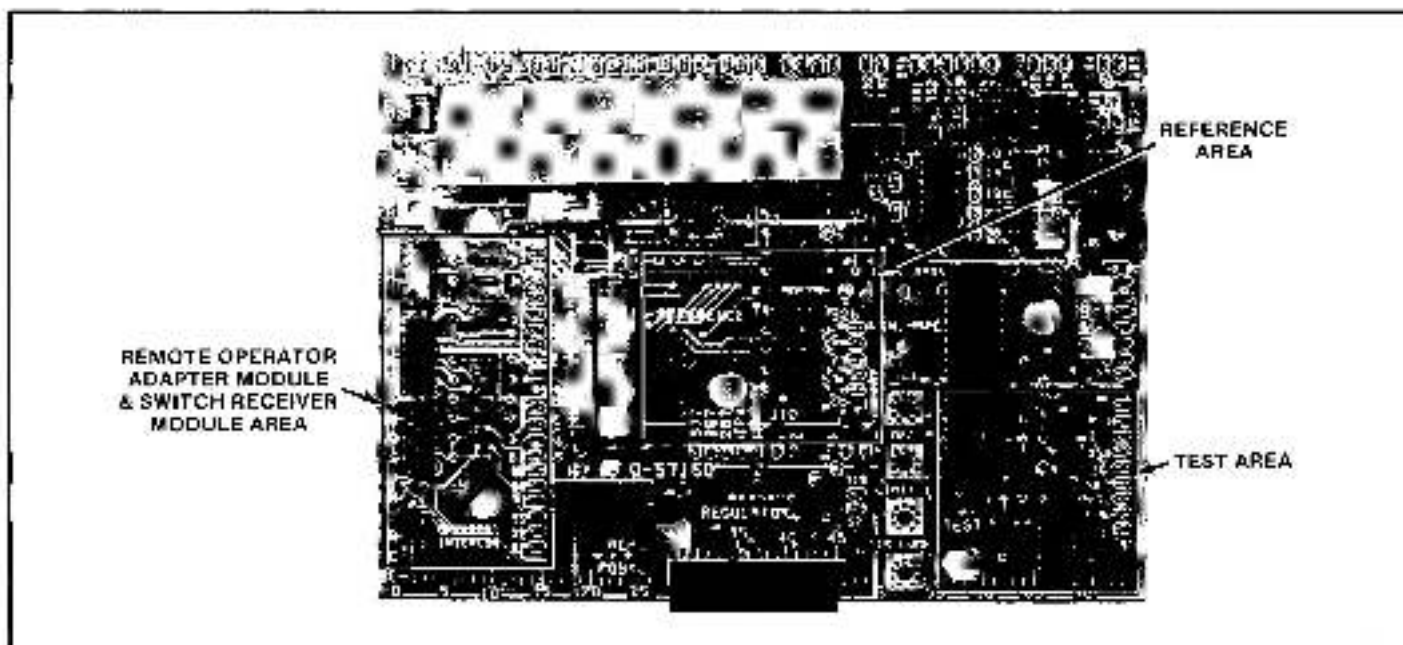

Figure 2 — Regulator Module Kit Locations
2. Refer to Figure 2 and note the heavy border area at the extreme left-hand side of the Regulator Module. This is the area where the Switch Receiver Module is to be mounted. First, remove the Remote Operator Adapter Module. Then, place the Switch Receiver Module in the proper orientation so the two connectors are aligned over the two sets of pins (marked GRN 28 and RED 32). Carefully, slowly and gently press the connectors down on the pins until they bottom. Then, connect the black pig-tail jumper of the Switch Receiver Module to pin 40 on the Regulator Module.
5. Refer to Figure 2 and note the heavy border area in the center of the Regulator Module marked REFERENCE. This is the area where the Reference Receiver Module is to be mounted. Place the Reference Receiver Module in the proper orientation so the pin guides on the module are aligned over the set of five pins on the Regulator Module. Lower the Reference Receiver Module so the pins pass through the pin guides and the mounting spacer seats in the mounting hole. (It may be necessary to remove a protective plastic cap from the pins.) Secure the module with the supplied screw.